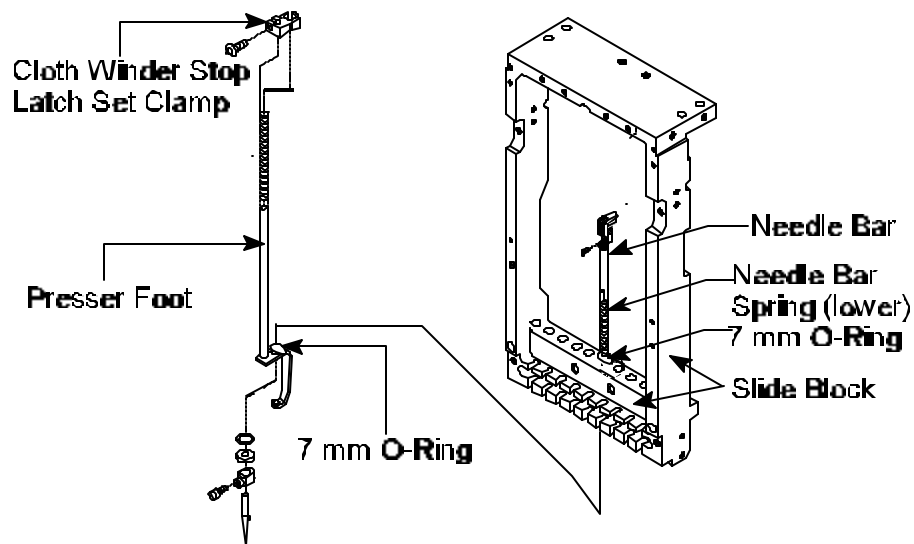

Figure 7
16. Slide new Presser Foot up through Slide Block then through Needle Bar Spring (lower). See Figure 7.
17. **Insert** Presser Foot through Cloth Winder Stop Latch Set Clamp. See Figure 7.